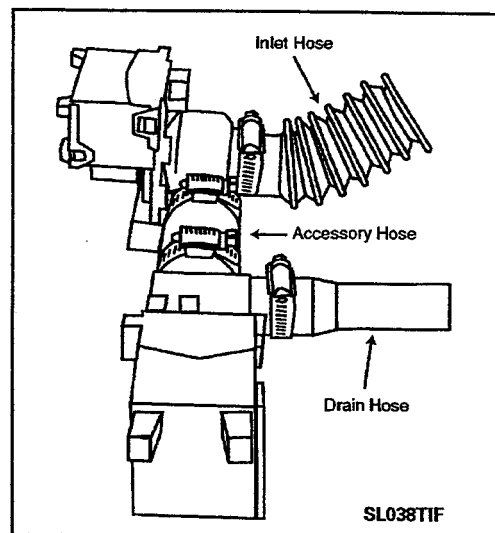

Figure 2-38
4. Position the second pump near the first pump and connect the accessory connector to the sump intake of the second pump. Secure with the clamp in the kit (*Figure 2-38*).